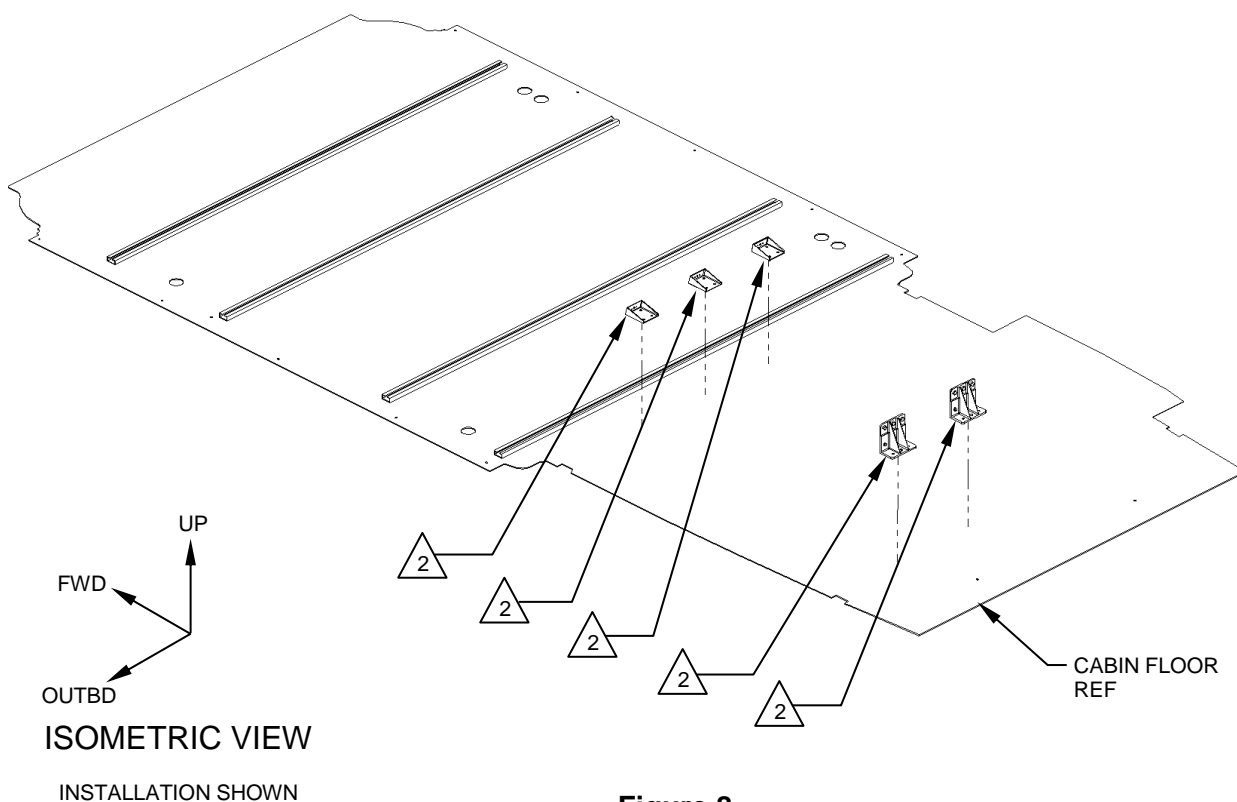

Figure 8
1. Gain access to the AFT section of the cabin floor. Remove OEM auxiliary tank and attachment assemblies; rear attachment assemblies are integral to fuel tank. Fuel tank not shown for clarity. Reference Figure 8.